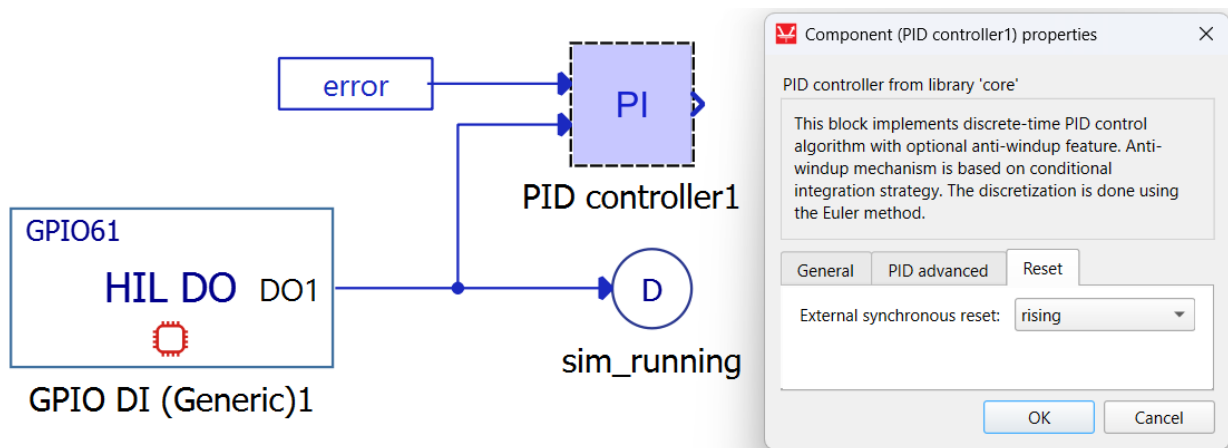

Figure 2. PID Controller - State reset input.
3. **Connect reset signal** (in this case signal *sim\_running*) **to the reset input of the component** (for example, a PID controller, reset input enabled in tab *Reset*) to reset its state (Fig 2.)